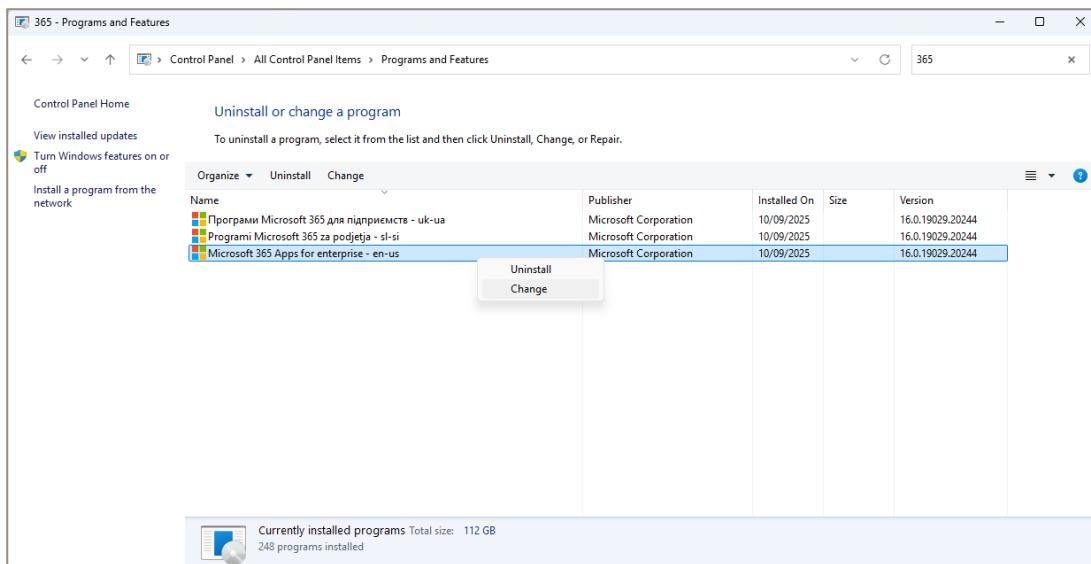

Figure 33: Step 02 - Right Click on Office 365 + Select "Change"
2. Right click on Microsoft Office – e.g. “Microsoft 365 Apps for enterprise – en-us” – and select “Change” in the pop-up window that gets displayed on screen. (see Figure 33)